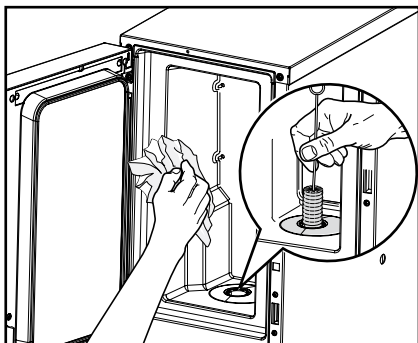

Fig. 25
4. Clean the interior of the cooling compartment (fig. 25):